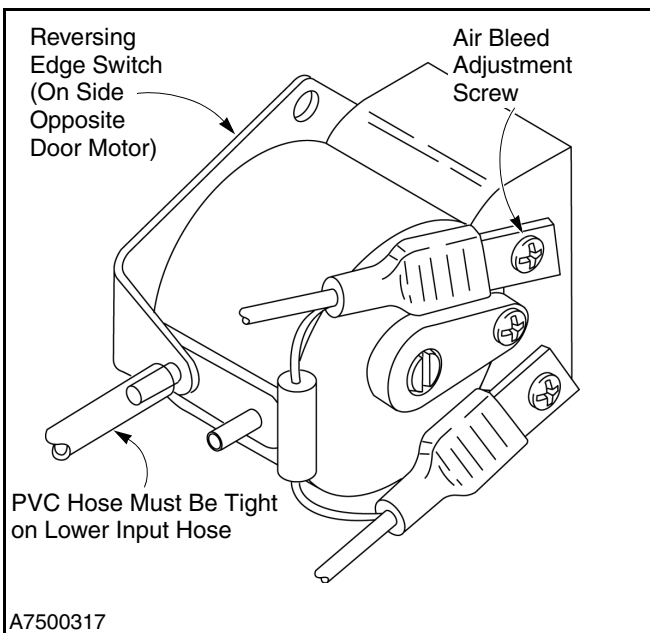

Figure 25
2. Make sure the clear PVC hose is in tight contact with the air input post so that air leakage cannot occur and that vibration will not cause the hose to fall off. Make sure the hose is not kinked. (See Figure 25.)
3. The air bleed has been set at the factory and should not require adjustment. To check the air bleed, turn the air bleed adjustment screws, located on the front and back of the switch, fully clockwise but do not overtighten. Then turn the screws counterclockwise one full turn. (See Figure 25.)